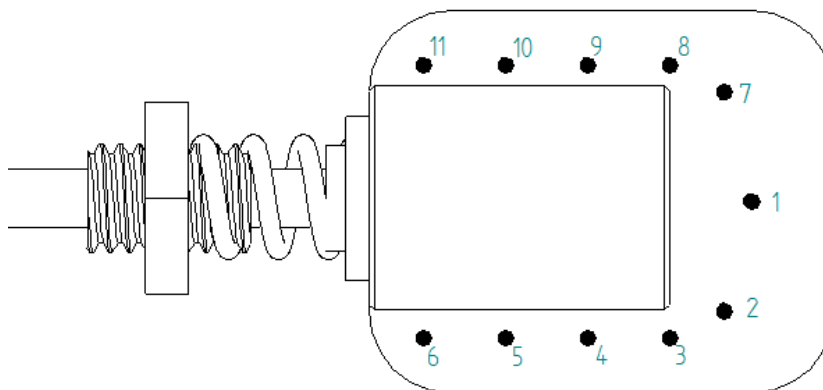

Figure 29: Weld pattern order
- 8) Proceed to weld FIRST point on the other end, following the weld pattern (Figure 29)